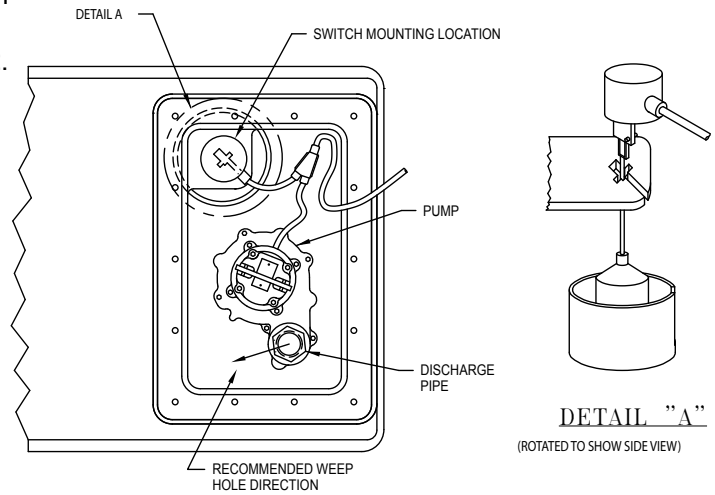

Figure 5.2
- 5.2) Place the pump into the tank as shown in Figure 5.2.